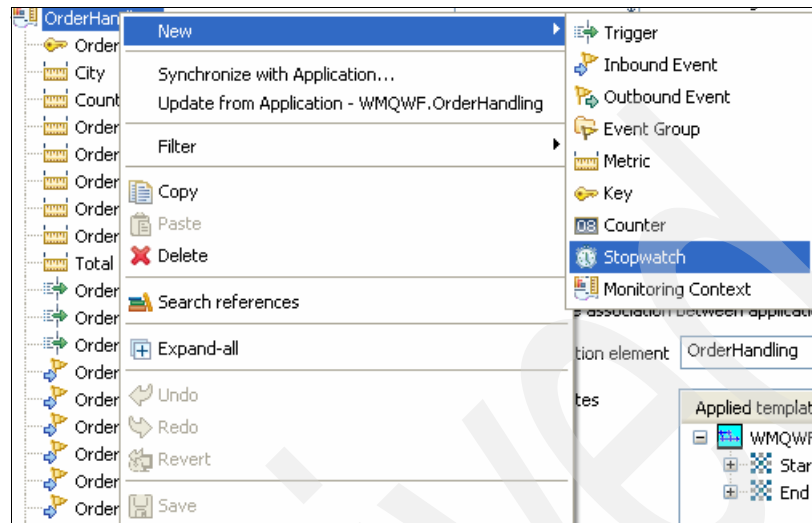

Figure 8-79 Selecting the options to add a stopwatch
26. Right-click **OrderHandling** and select **New** → **Stopwatch** (Figure 8-79) to add a stopwatch.